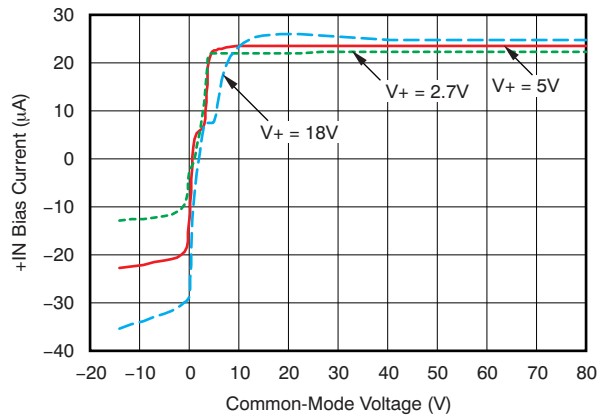

Figure 7. INA283 +IN Bias Current vs Common-Mode Voltage
(1) RTI = referred-to-input.
(2) See typical characteristic graph Figure 7.
(3) The average of the voltage on pins REF1 and REF2 must be between V_{GND} and the lesser of ($V_{GND} + 9\text{ V}$) and V_+ .